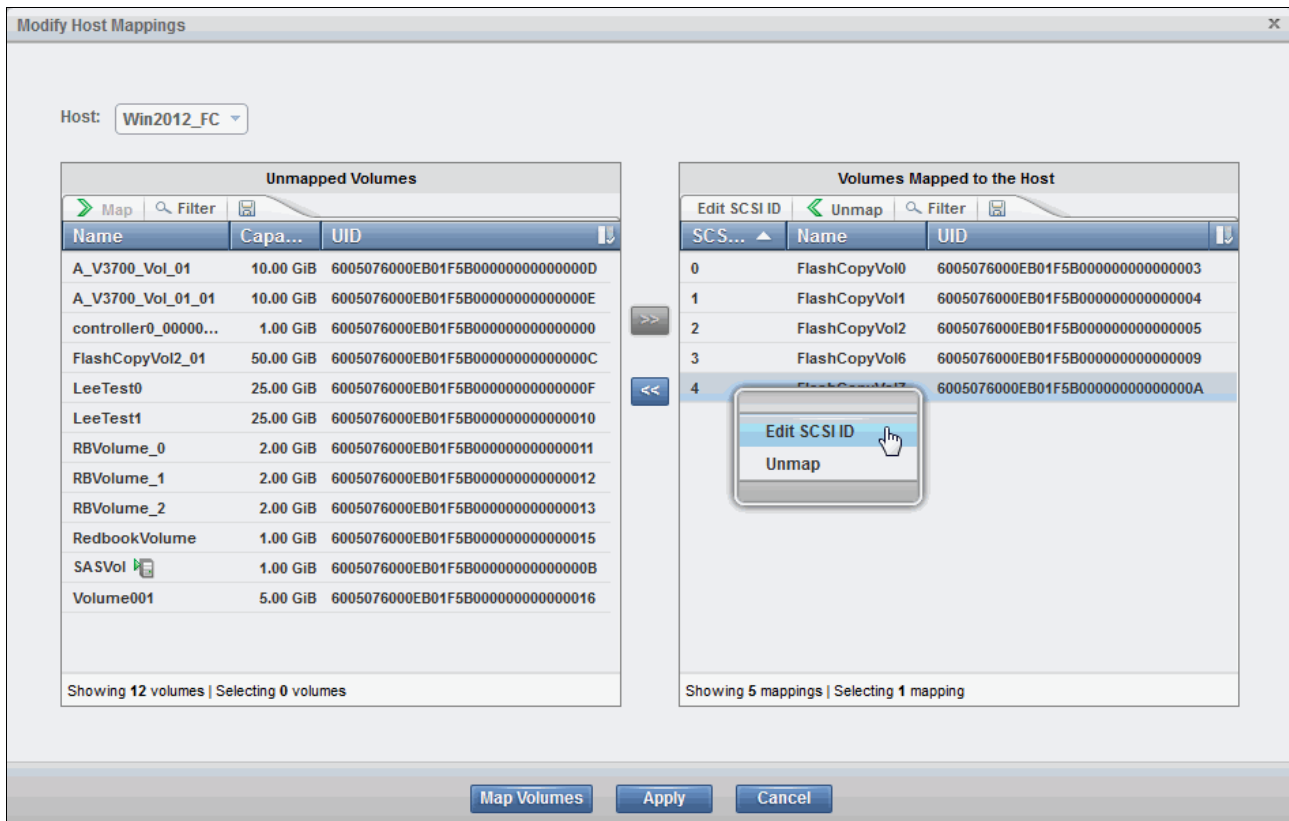

Figure 8-9 Editing SCSI ID
- After moving a volume to the right pane in the Modify Host Mappings pane, it is possible to right-click the yellow unmapped volume and change the SCSI ID used for the host mapping, as shown in Figure 8-9.